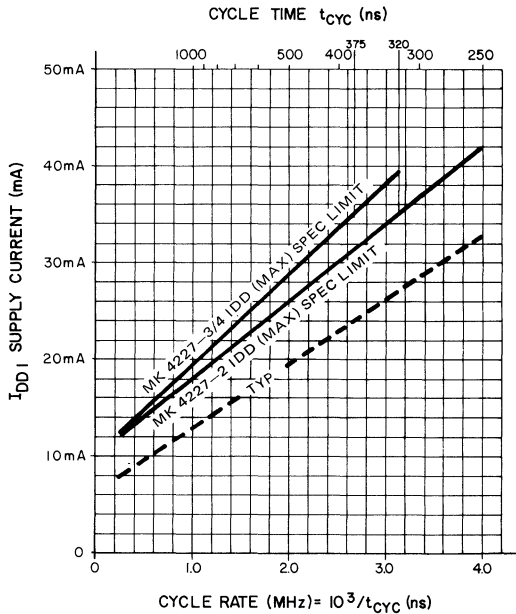

Figure 1. Maximum I_{DD1} versus cycle rate for device operation at extended frequencies.
- Current is proportional to cycle rate. $I_{DD1}(\text{max})$ is measured at the cycle rate specified by $t_{RC}(\text{min})$. See figure 1 for I_{DD1} limits at other cycle rates. The following equations may be used to calculate $I_{DD1}(\text{max})$ at other cycle rates.